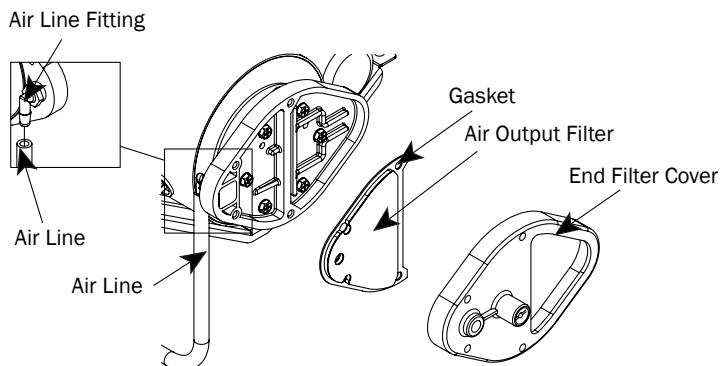

Figure 14 - Check Air leaks around Pump.
- Remove air line from air line fitting (See Figure 14) and from nozzle adaptor. (See Nozzle, page 14)